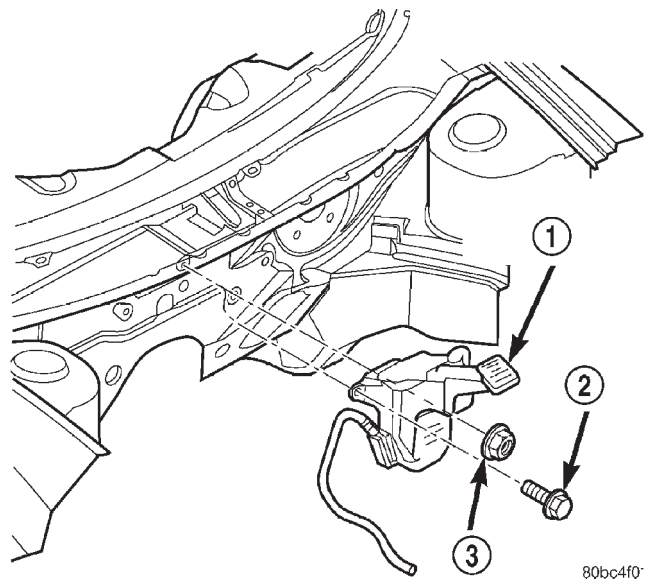

Fig. 30 Coolant Recovery Container
- (2) Remove container attaching fasteners (Fig. 30).
- (3) Remove coolant recovery container.
- (1) Install coolant recovery container and tighten fasteners to 4 N·m (35 in. lbs.) (Fig. 30).